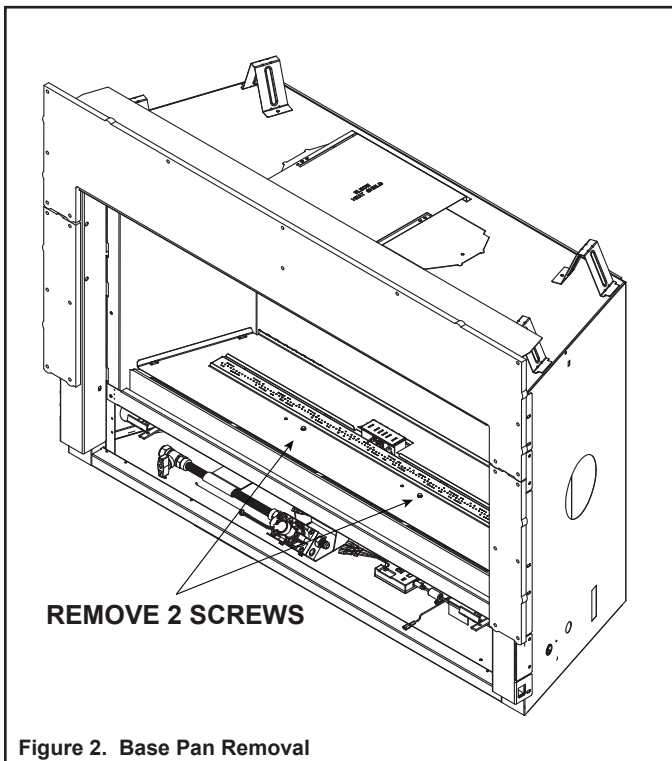

Figure 2. Base Pan Removal
7. Remove the base pan by removing the two screws located in front of the burner. See Figure 2.